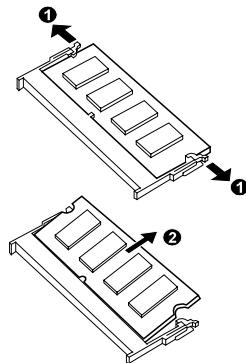

Figure 2-11
3. Pull the retaining clips outwards (①) and remove the SO-DIMM (②). (Figure 2-11)